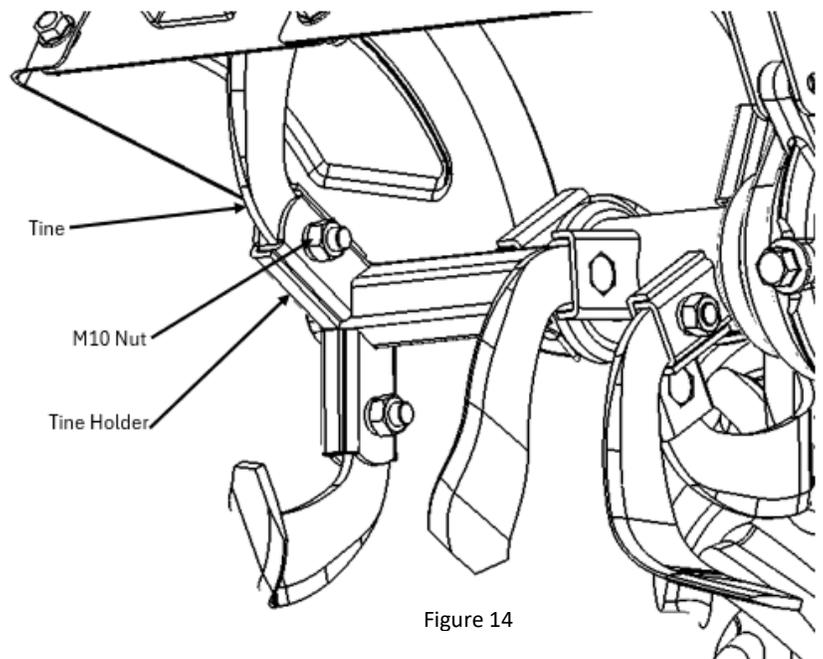

Figure 14
2. Remove the M10 Nut from tine retaining bolt using a 16mm Wrench. (**Figure 14**)